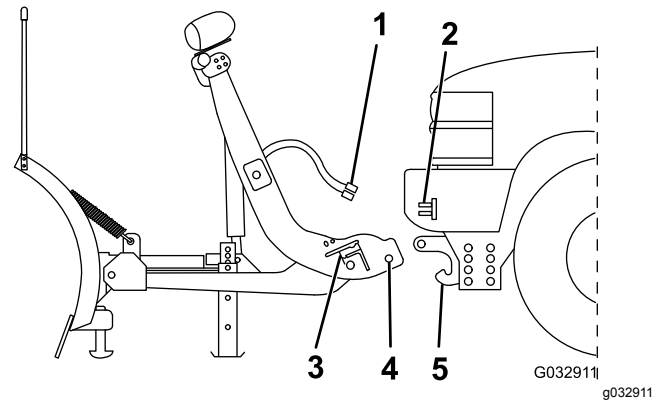

Figure 26
2. Line up the vehicle with the snowplow and slowly drive forward until the lower pin contacts the push-beam pin receiver (Figure 26).
4. Remove the electrical-plug dust-covers and connect the plow wire harness to the vehicle wire harness (Figure 26).